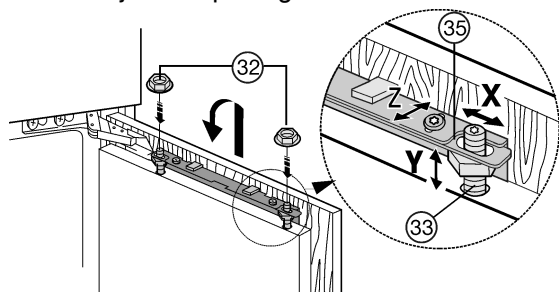

Fig. 32
- ▶ Attach the unit door on the adjusting bolts *Fig. 32 (33)* and loosely screw the locknuts *Fig. 32 (32)* onto the adjusting bolts.
- ▶ To align the unit door in the Y direction (height) and in lateral inclination: Adjust the adjusting bolts *Fig. 32 (33)* with a screwdriver.
- ▶ Tighten the locknuts *Fig. 32 (32)*.